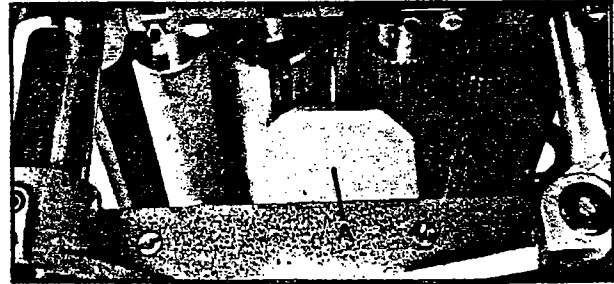

Fig. 29
4. Move the gage block (A) underneath the chipbreaker (D) as shown in Fig. 29. The bottom of the chipbreaker should just touch the top of the gage block. Check opposite end of chipbreaker in the same manner.